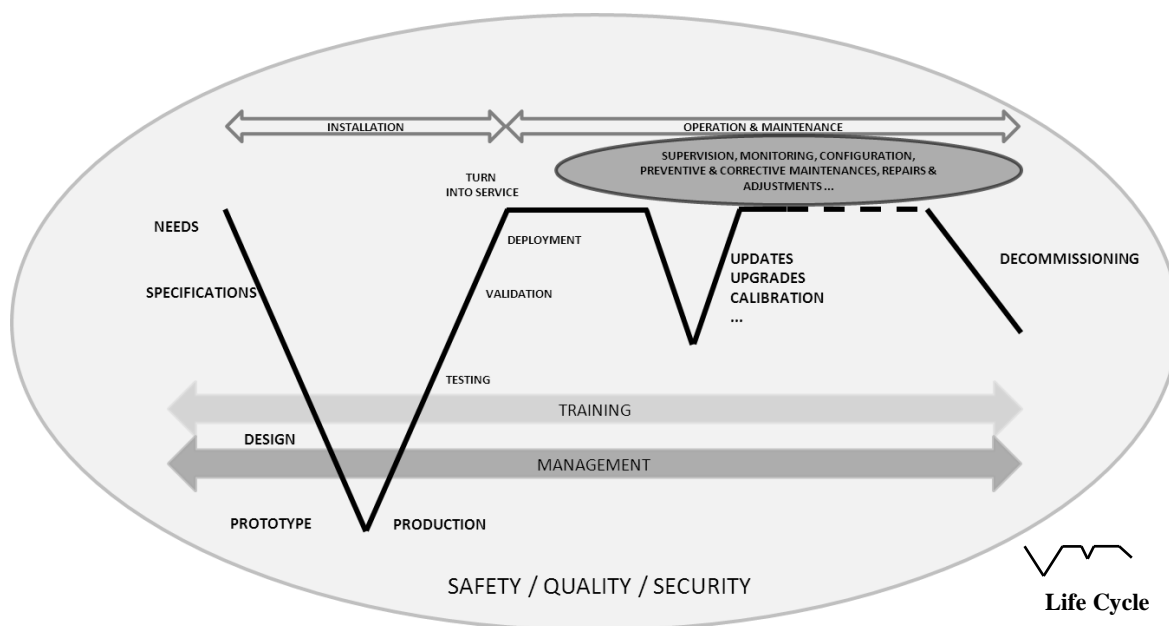

Figure 1.1. Scope of ATSEP activities
(1) Regulatory Environment
(2) ATSEP Scope of activities
- (b) Figure 1.1 below illustrates the possible scope of ATSEP activities using as a basis the engineering lifecycle from system conception through design, operations and finally decommissioning.
- (c) The ANSP is responsible for determining the scope of its ATSEP activities by selecting the activities from within the possible scope depicted in Figure 1-1.